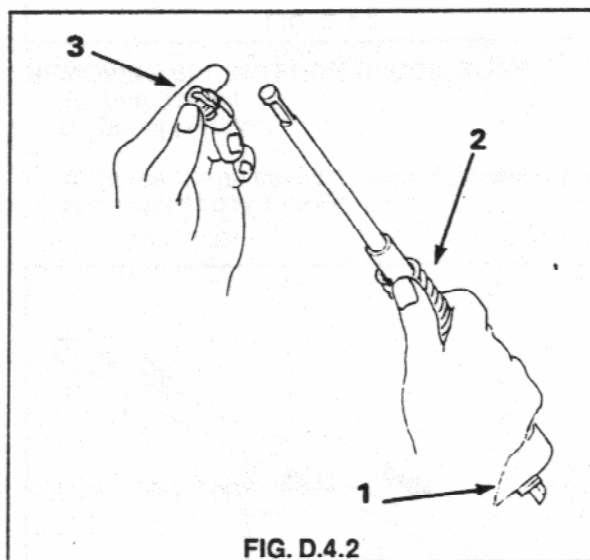

FIG. D.4.2
2. Refer to Fig. D.4.2. Hold the return spring assembly vertically with the head of the recoil body supported on a surface, and with the return spring uppermost. Compress the spring downwards towards recoil body and remove the locking rod guide.